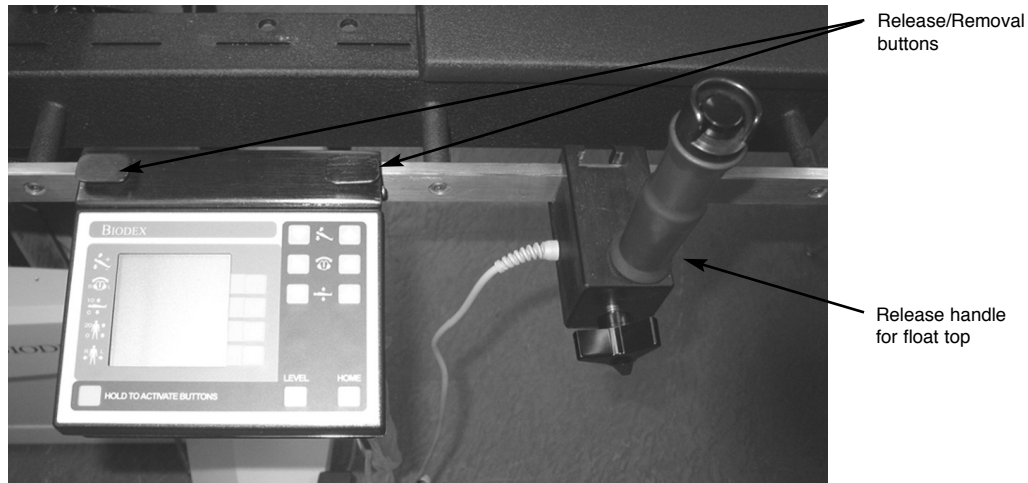

Figure 13.1.
2. Disconnect the two connectors shown in Figure 13.1. The connectors are color-coded for the blue is main power/communication cable and white is for either the release handle (840) or joystick (830), based on table configuration.